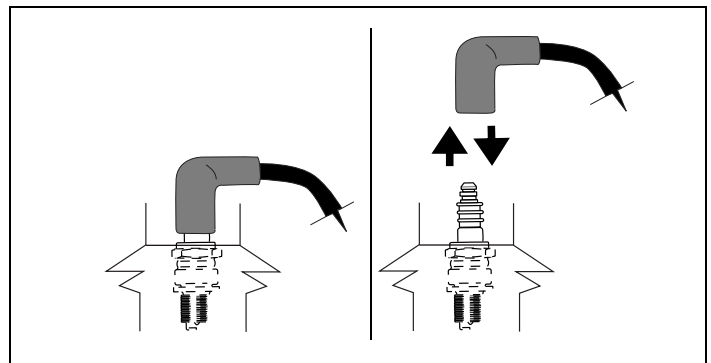

Figure 3. Disconnecting/Connecting Spark Plug
- Carefully disconnect spark plug wire and keep it away from spark plug. See Figures 3 and 4.